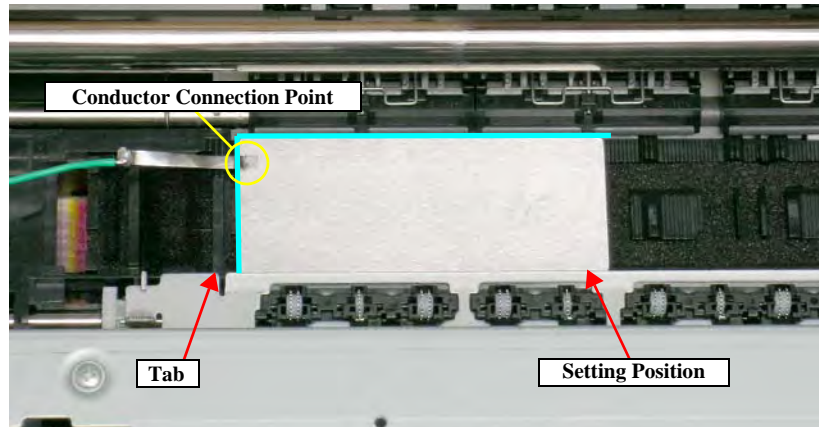

Figure 5-6. Setting the Adjustment Gauge
- Left direction: Release the left end of the Gauge from the Tab on the Front Paper Guide in *Figure 5-6*.